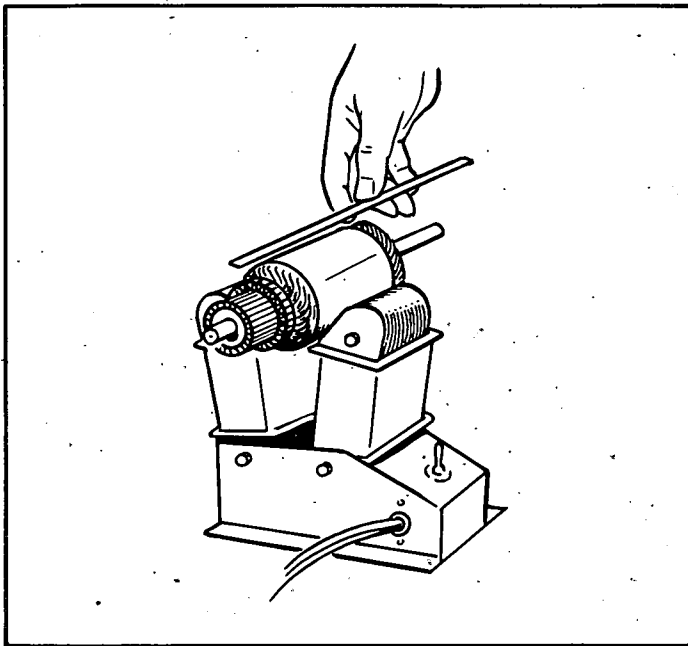

FIGURE 34. ARMATURE SHORT CIRCUIT TEST
1. **Testing Armature for Short Circuits.** Place the armature in a growler and hold a thin steel blade parallel to the core and just above it while slowly rotating the armature in the growler. A shorted armature will cause the blade to vibrate and be attracted to the core. Replace shorted armature. See Figure 34.